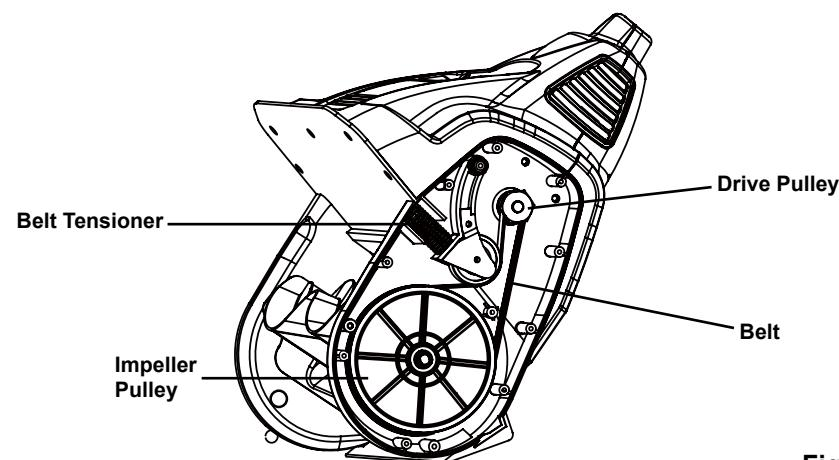

Fig. 9
- Pull the belt tensioner (idler arm) away from the drive pulley. Remove the damaged or broken belt from the impeller pulley and the drive pulley inside the housing. Discard the belt in the proper manner (Fig. 9).
- Loop the new belt around the drive pulley and the impeller pulley (Fig. 9). Pull the belt tensioner (idler arm) away from the drive pulley in order to install the belt around the drive pulley.